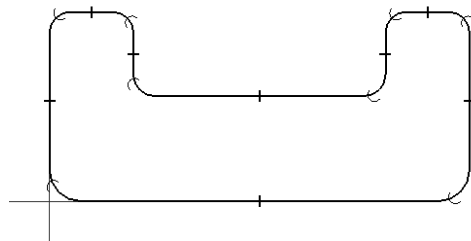

Figure 2-32 Sketch after creating fillets
6. Select the remaining corners of the sketch one by one and fillet them with a radius of 10. The sketch after creating fillets is shown in Figure 2-32.